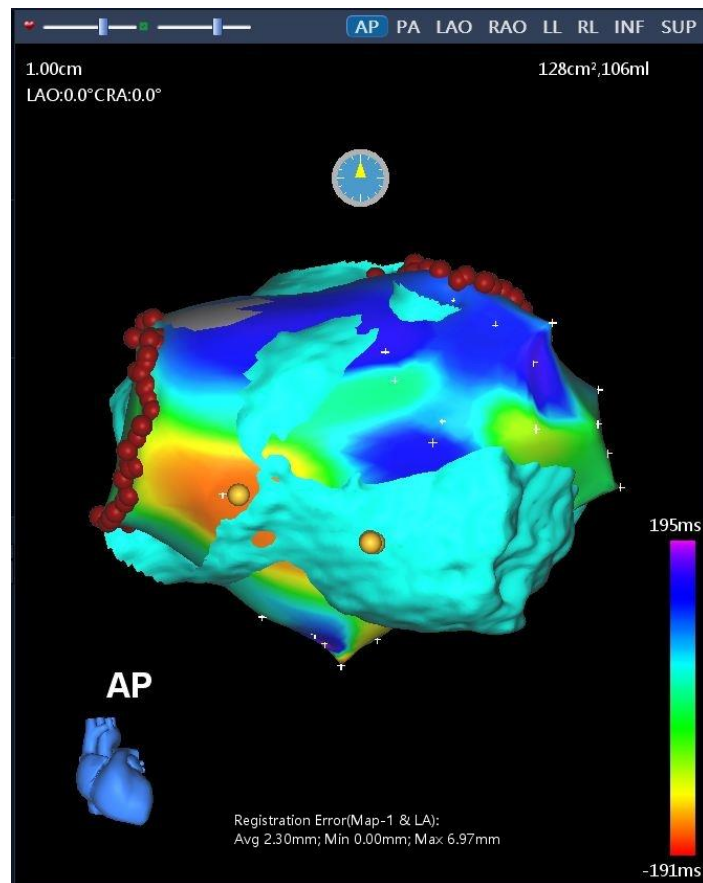

Figure 9-10 Registration Error Display
- 5) Once registration is complete, the error of the current registration result is displayed in the map window, including the mean, minimum, and maximum deviation between the map point and the surface image (Figure 9-10). Registration errors may serve as a reference for you to assess the quality of the registration results.